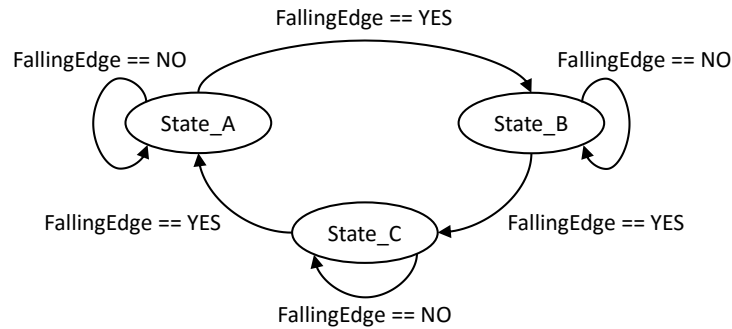

Figure 1: State Transition Diagram of the FSM
2. [40 points]: Given that the clock frequency ($clk_{I/O}$) of ATmega328P is 16MHz, implement the finite state machine (FSM) shown in Figure 1. The state transitions are made whenever a button connected to INT0 pin (i.e. PD2) is pushed and a **Falling Edge** is detected at INT0. Each state produces an output signal at PB2, and the output specifications of the states are as follows: